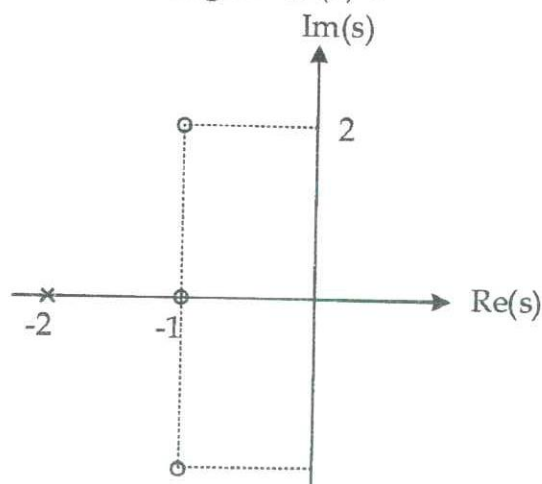

Figure Q1(b)-2
- Consider the circuit shown in Figure Q1(b)-1. The input voltage is  $v_i$  and the output voltage ( $v_o$ ) is the voltage across the capacitor. Find a suitable state vector to express the system in state-variable form.